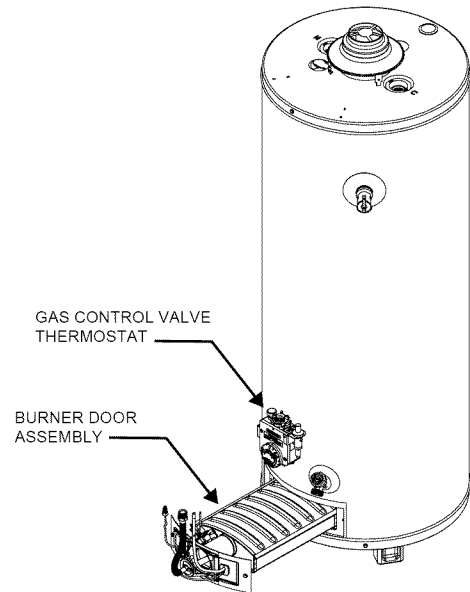

FIGURE 30.
2. Use a vacuum cleaner/shop vac to remove all loose debris in the combustion chamber (Figure 30). Use compressed air to clear any dust or debris that may have accumulated in the flame arrestor.
4. Inspect the door gasket and make sure there is no fiberglass insulation between the door gasket and the combustion chamber (See Figure 30).